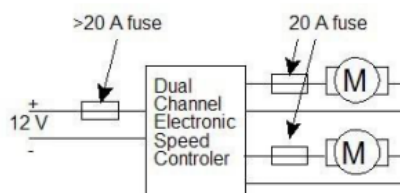

Figure 13: Circuit Protection
- a. Tele-operated robots must start together, and their total volume will be taken based on their overall starting position (see Figure 13).